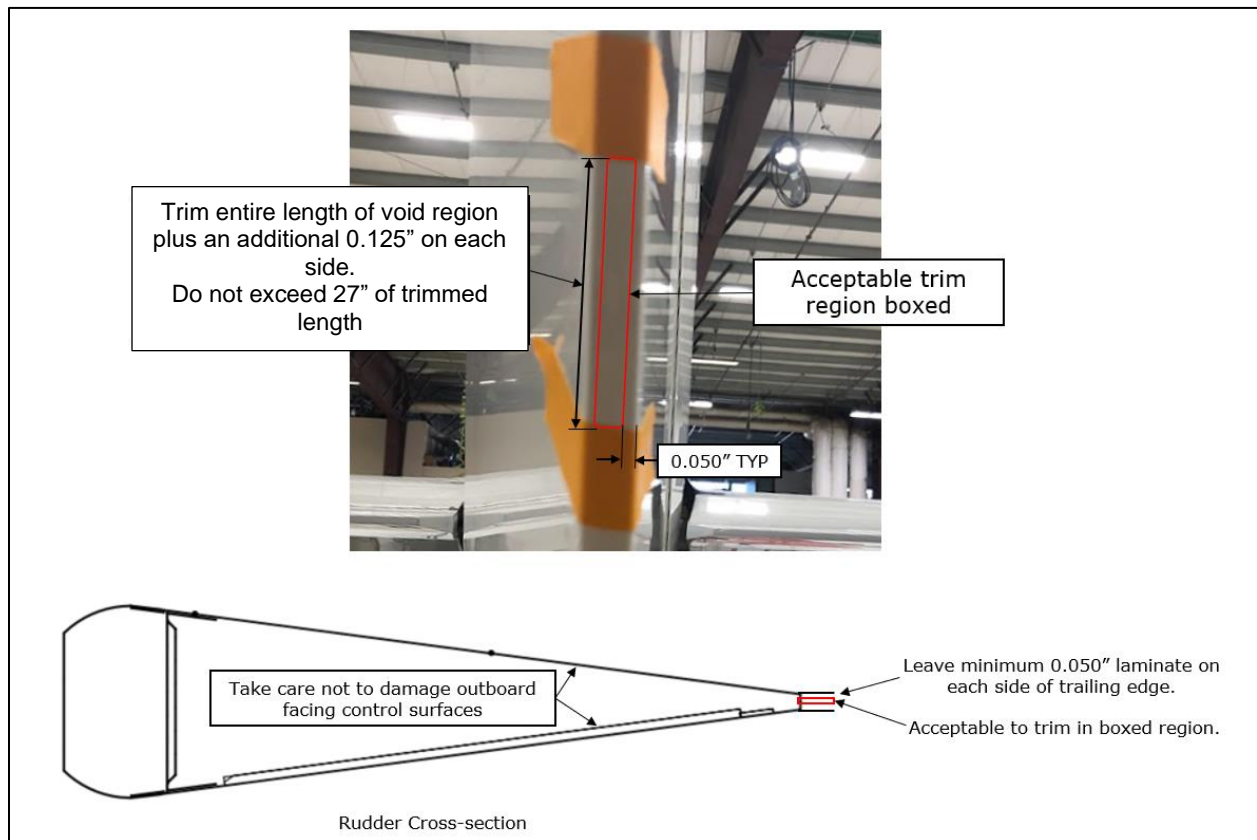

Figure 3: Material Removal Limits
6. Working from the trailing edge, carefully remove the adhesive and damaged material in the voided region. Adhesive removal is to extend 0.125" above and below the disbonded/void area until all disbonded/voided adhesive is removed. The total length of trimmed regions should not exceed 27". If more than 27" of trimming is required, contact Epic. It is acceptable to trim carbon fiber laminate skin structure from the trailing edge to expose the discrepant area, but ensure the final dimension from the edge of the trimmed region to the outboard facing surfaces of the Rudder Skin are not reduced below 0.050" on either side. Refer to Figure 3 for material removal limits and region.
7. Trim the trailing edge of the rudder in the void region as needed to provide access to the bond line. It is acceptable to trim laminate from the trailing edge but do not reduce the distance between the edge of the trimmed region and the outward facing surface of the rudder skin below 0.050". See Figure 3 for material removal region.
11. Fill a 2" long 0.187" diameter plastic syringe (item 15) with neat (not mixed with flock) EA 9360 Aero Bonding paste for use as a sample cup. The sample cup is to be cured with the repair in all subsequent curing steps.